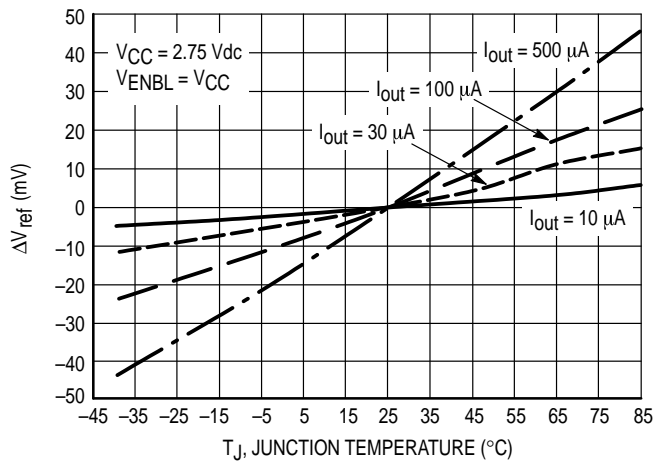

Figure 2.  $\Delta V_{ref}$  versus  $T_J$  @  $I_{out}$
- Step 4: Choose  $I_{out}$  keeping in mind that too large an  $I_{out}$  can impair MDC5000  $\Delta V_{ref}/\Delta T_J$  performance (Figure 2) but too large an  $R6$  can cause  $I_{DGO}$  &  $I_{GSO}$  to bias on the FET.